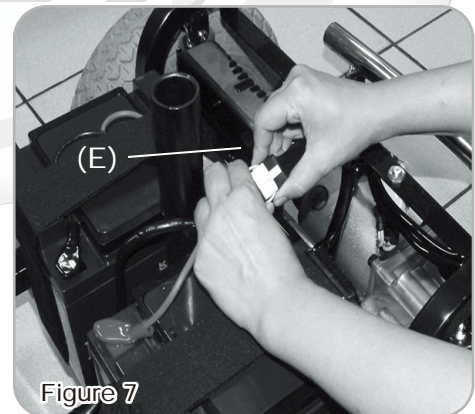

Figure 7
Unplug Wire Connect (E) of the front and rear nits. *Please make sure the main wires are tied and placed safely on the frame structure to avoid any hazard. (See Fig. 7)